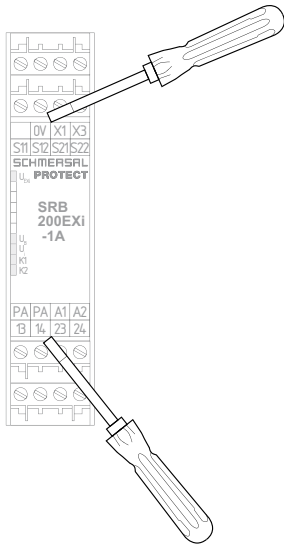

Fig. 4
**Setting the switch (see Fig. 4)**